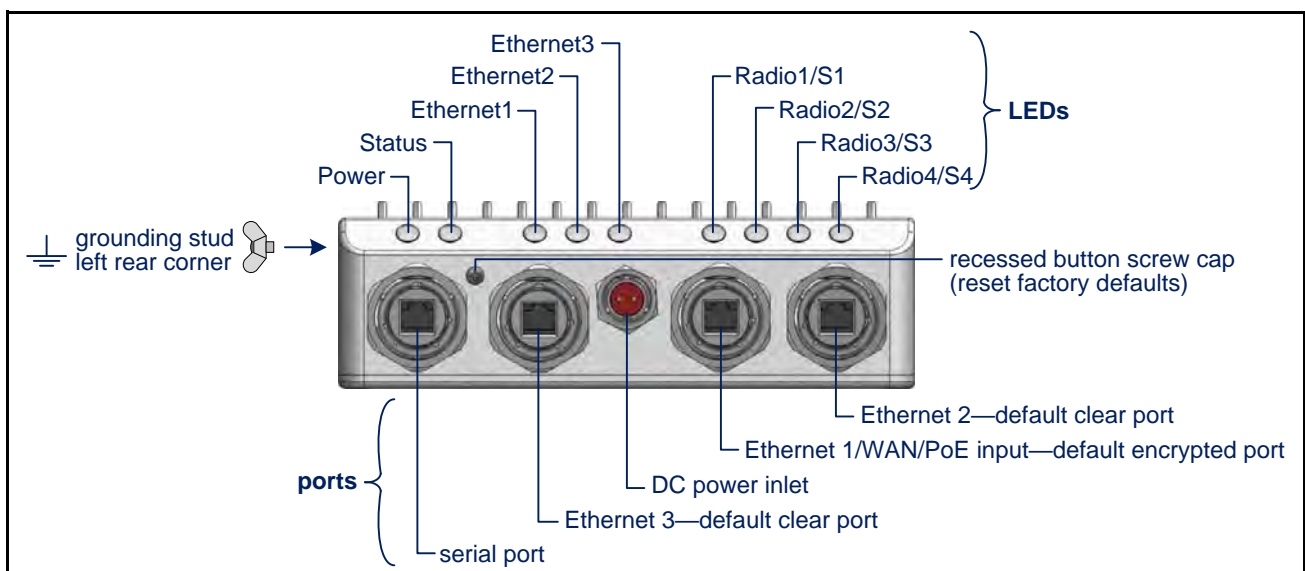
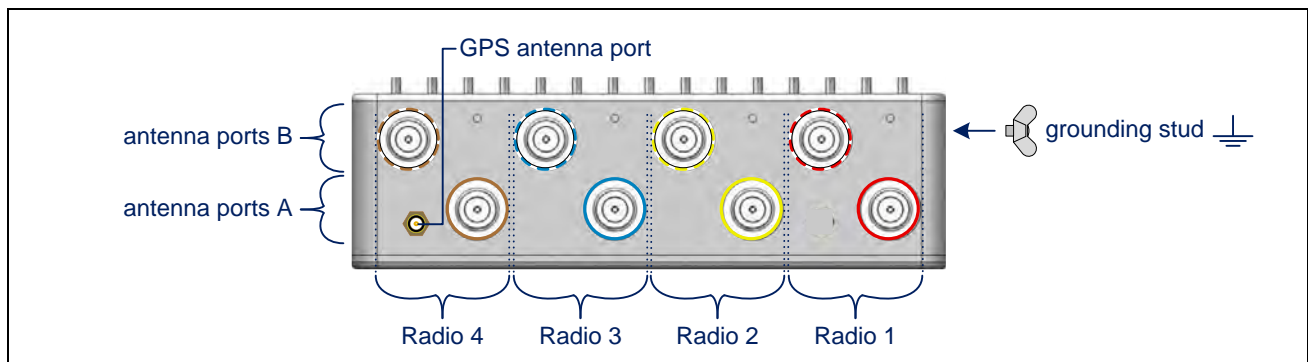

Figure 2.1. ES2440 Front-Panel Ports, Reset Button, LEDs and Grounding Stud Location
Figure 2.2. ES2440-3555 Back-Panel Antenna Connectors
- ◆ **Grounding:** Ground the ES2440 by connecting a ground wire to the grounding stud located on the left rear corner of the chassis (refer to Figures 2.1 and 2.2, below).
Plug the PoE+ adapter/injector for the ES2440 into a properly rated AC outlet using the power cord provided for the device, and connect the adapter/injector to the ES2440's **Ethernet1/WAN/POE** port (refer to Figure 2.1) with a Cat5 Ethernet cable.
Plug the DC power adapter/supply for the ES2440 into a properly rated AC outlet using the power cord provided for the device, and connect the power adapter/supply to the ES2440's **DC Power** inlet (refer to Figure 2.1).
Connect the DC power connector/cable assembly to a 11–32 VDC power source, and connect the assembly's 2-pin connector to the ES2440's **DC Power** inlet (refer to Figure 2.1).
The ES2440 Mesh Point's **Serial** port and three Ethernet ports, **Ethernet1/WAN/POE**, **Ethernet2**, and **Ethernet3** are located on the front panel, along with the **DC Power** inlet and recessed **Reset** button (see Figure 2.1).
On all ES2440 models, the grounding stud is the wing nut located on the left rear corner of the chassis, viewing the ES2440 from the front as shown in Figure 2.1 (refer to also to Figure 2.2).
Antenna port ring labels identify which radio uses to each pair of ports by color: red, yellow, blue and brown (right-to-left in Figure 2.2), correspond to radios 1, 2, 3, and 4, respectively. Solid ring labels identify the radios' **A** antenna ports; dashed-line labels identify **B** ports. Antenna port labels are printed with the corresponding radio's 802.11 capabilities: **802.11a/b/g/n** or **802.11a/n**.
- 1 Ground the ES2440-3555/35 by connecting a ground wire to the grounding stud located on the left rear corner of the chassis (refer to Figure 2.1).
- 1 Ground the ES2440-0 by connecting a ground wire to the ES2440's grounding stud located on the left rear corner of the chassis (refer to Figure 2.1).
The ES2440 Mesh Point features nine LEDs on the front panel (shown in Figure 2.1, on page 6).